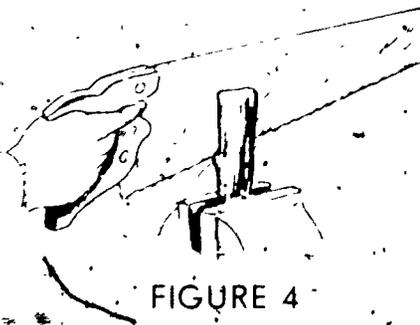

FIGURE 4
- F. Make a cut across the long distance of the top of the handle to a distance of about 2/3 the depth of the eye using the handsaw (Figure 4)